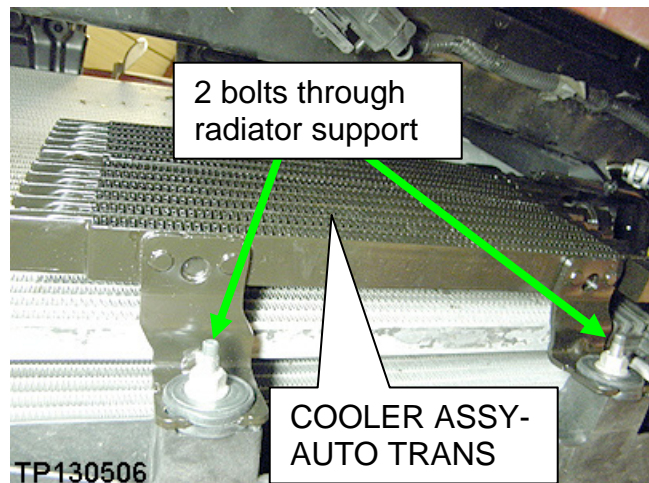

Figure 1
- a. Insert 3 bolts (Figure 1 and Figure 2) from the kit through the composite radiator support from the engine compartment side.
NOTE: Figure 1 is a view of the front of the radiator/condenser, taken from the bottom looking up.